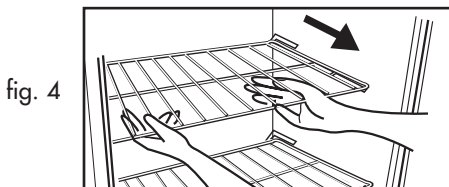

fig. 4
## Freezer Interior Shelves (fig. 4)
1. Gently tilt the shelf up and slide it towards you until the shelf has been completely removed. (see fig. 4)